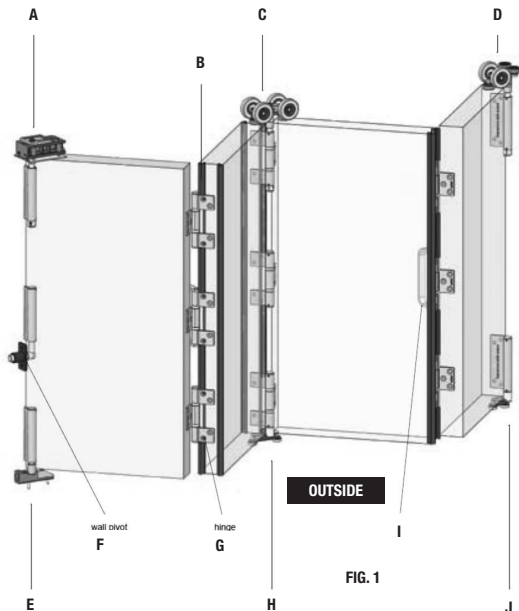

FIG. 1
- D) Check all parts received against the packing list to ensure all required parts are present. (Fig. 1)